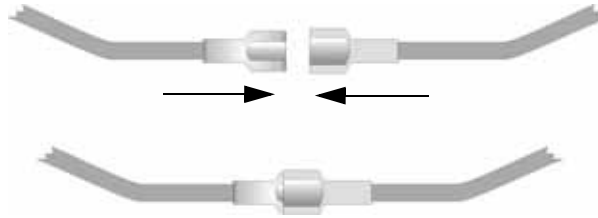

Figure 4-4 Splicing Control panel Battery Cable to RBB or AB-55 Battery Cable Extenders
2. Connect the main control panel battery cables to the battery cable extenders as shown in Figure 4-4.